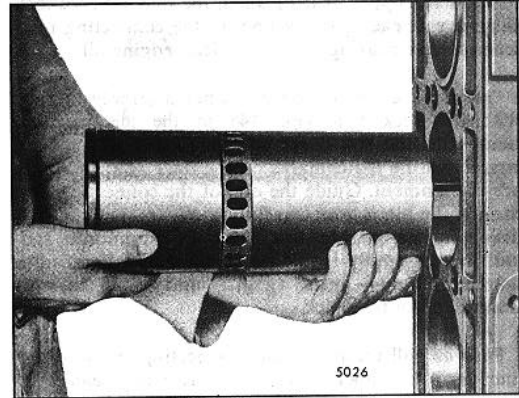

Fig. 14. Installing Piston, Rod and Liner Assembly in Cylinder Block
4. Position the piston, rod and liner assembly in line with the block bore (Fig. 14) so the identification number on the rod is facing the blower side of the engine and the matchmarks on the liner and the block are in alignment. Guide the end of the connecting rod through the block bore carefully to avoid damaging or dislodging the bearing shell. Then slide the piston, rod and liner assembly straight into the block bore until the liner flange rests against the insert in the counterbore in the block.